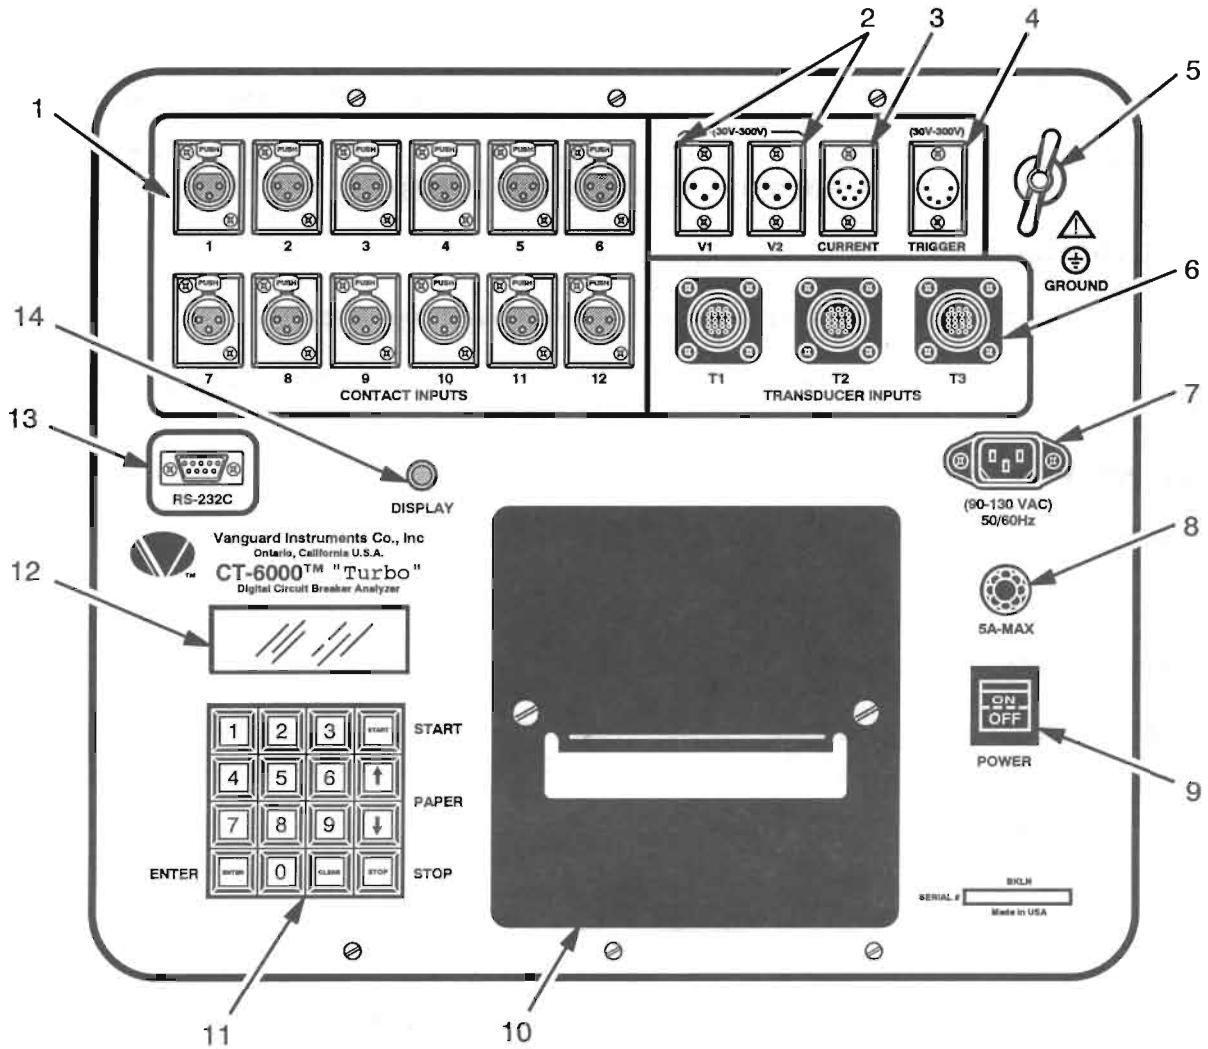

Figure 1A. CT-6000 Timer Control Panel (sheet 1 of 2)
6.1 Before breaker timing, operators should be familiar with all controls and indicators. Figures 1A and 1B show a Timer panel, with arrowed lines pointing to each control and indicator. Line numbers refer to table 2A and 2B, which describes each control and indicator. The keypad and screen are used to operate the Timer.
| Fig. 1A INDEX No. | PANEL MARKING | FUNCTIONAL DESCRIPTION |